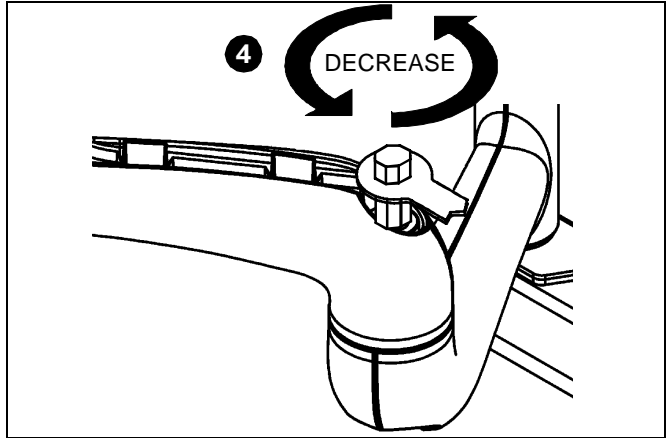
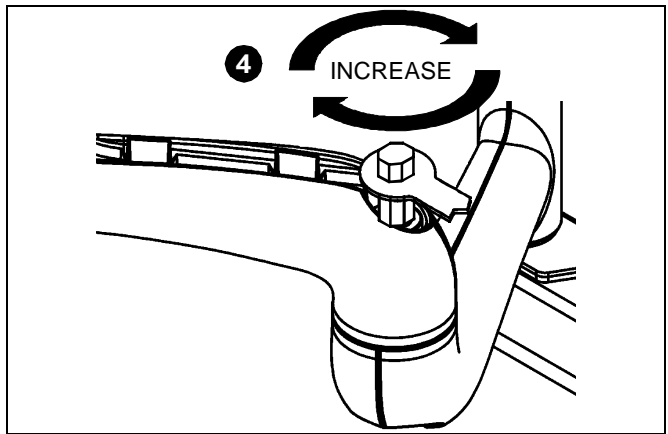

Figure 10
Figure 11
4. Using the adjustment wrench (L), turn adjustment bar (K) clockwise to increase swing arm tension or counterclockwise to reduce swing arm tension. (Small adjustments of 1/8 turn or less are typically all that is required to achieve desired tension.) (See Figure 10) and (See Figure 11)